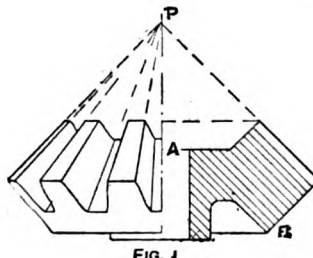
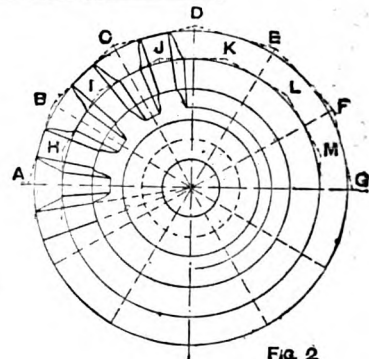

FIG. 1
FIG. 2
teeth. Suppose that point D is in the picture plane on the left of the spectator and that S (Fig. 3) is the station point, UV the horizontal line, and XY the intersecting line of picture plane. Draw the intersecting line NO of the plane of the largest polygon, then draw the vanishing parallels DE, DC, EF, CB, FG, BA (Fig. 3) at angles corresponding with those on Fig. 2; this will give the vanishing points. Find the corresponding measuring points, and with the aid of these draw the polygon in perspective ABCDEFG (Fig. 3), dividing each line into three parts, the centre one of which will be an edge of a tooth. Now find the perspective position of point P (Figs. 1 and 3), which will be the vanishing point of all the edge lines of the teeth. To this point join the centre divisions of each of the polygon sides, then draw a smaller polygon containing the top edges of the teeth. Now draw vanishing parallels KL, JI, LM, and IH (Fig. 3) corresponding with the angles of the polygon HIJKLM (Fig. 2), and draw this in perspective in a similar manner to the larger polygon; then by joining the points the teeth may be shown. Now put in the two circles shown by the lines A and B (Fig. 1) to complete the drawing. Most of the construction lines are omitted in Fig. 3.
**Horse Gear for Driving Circular Saw.**—Fig. 1 shows the machinery for driving a circular saw that is to be worked by one or two horses at the end of an 11-ft. pole. The toothed-wheel T and the pinion P are 6 ft. and 6 in. in diameter respectively. The vertical shaft L, to which the tooth-wheel is keyed, is turned by two horses connected to the end of the arm A. This arm should be about 11 ft. long. The lower end of the shaft L works in an iron socket. This shaft is secured by three iron stays s; two only are shown in Fig. 1. Fig. 2 explains the construction of the stays. Through the centre hole is passed the vertical shaft, above which the driving arm A (Fig. 1) is secured to the head of the shaft, a cotter being passed through a cotter-way in the eye of the arm and the shaft. The stays s are secured to the foundation, bolts being passed through the holes, and nuts firmly screwed down on the feet of the stays. These stays do away with the old-fashioned overhead beam. On the farther end of the horizontal shaft H (Fig. 1) is keyed a wheel W, 5 ft. in diameter, from which a belt leads to the pulleys on the saw-spindle. Two bearings at least will be required for this shaft to run in. They should be close to the pinion and belt-wheel, as indicated by the letters B. If desired, a third bearing could also be placed at the centre of this shaft. Fig. 3